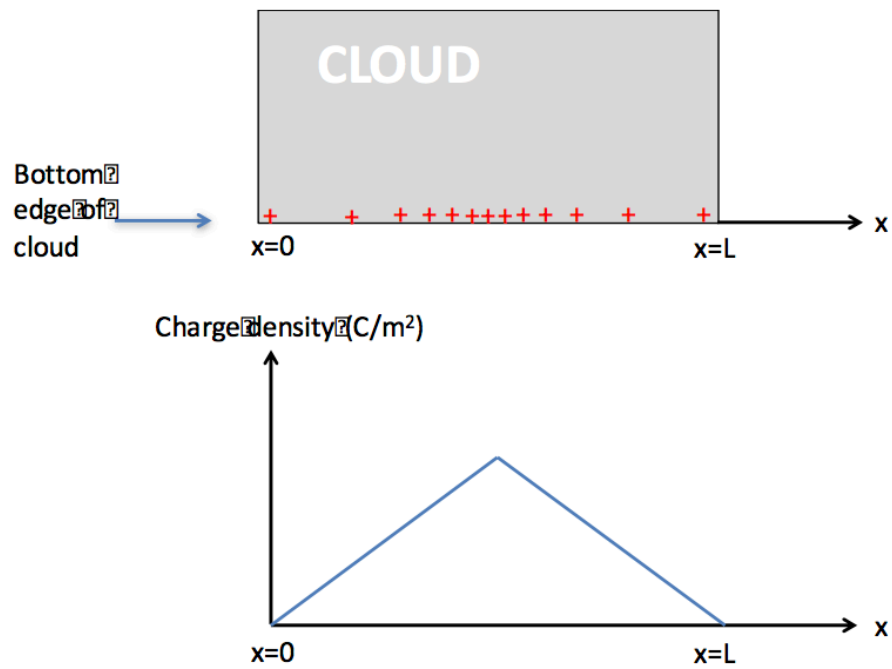

Figure 6 Charge density along bottom edge of cloud (this is an illustrative example, your results may vary).
- Expand your MATLAB script so that computes the surface charge density along the bottom edge of the cloud, and present a plot of this surface charge density in **slide 14**. Figure 6 gives an example of the type of plot I'm looking for. Note that in this example plot, the surface charge density magnitude is highest in the middle of the cloud (right above the lightning rod). Your results may be different. Describe the location(s) of the surface charge density maxima for your geometry. Comment on the reasons for these maxima in slide 14 (i.e. why would excess charge accumulate in these certain areas?).